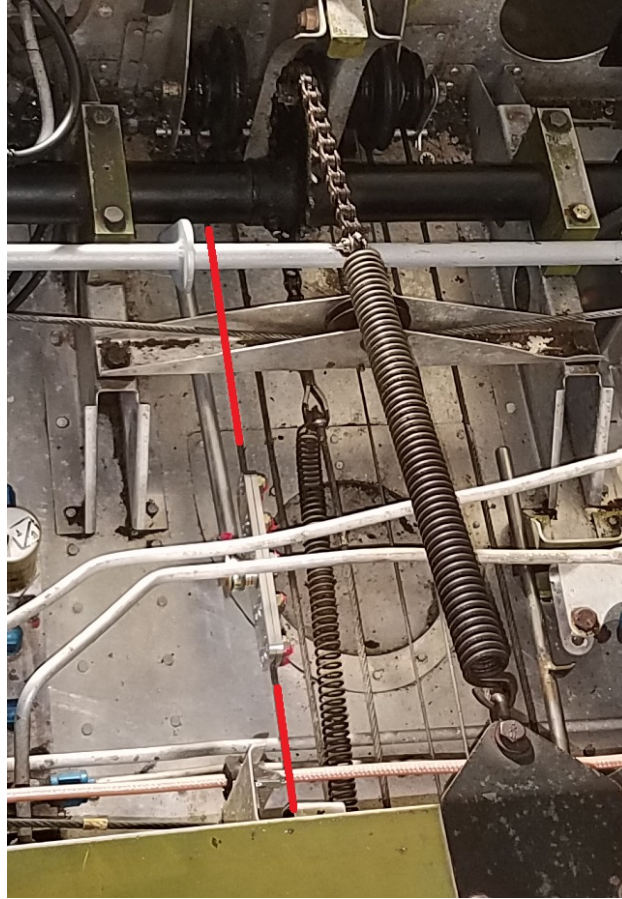

Figure 2-22
- 1.35. Move the controls in pitch to ascertain the location of the elevator cable marked in red in Figure 2-22.